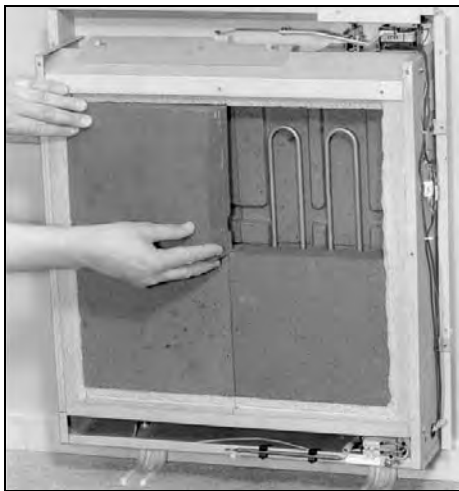

fig.20
- Build up the complete rear brick columns. Reinstall the heater elements (fig.20). **Make sure that the element connection tabs are not damaged and also, that they fit neatly into the openings in the lower insulation.**
Build up the complete front brick columns.(fig.20). **Make certain that the front and back row of bricks are flush to each other.**